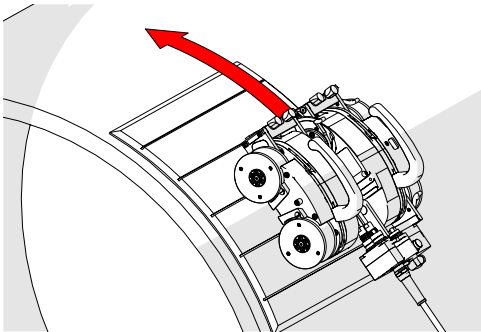
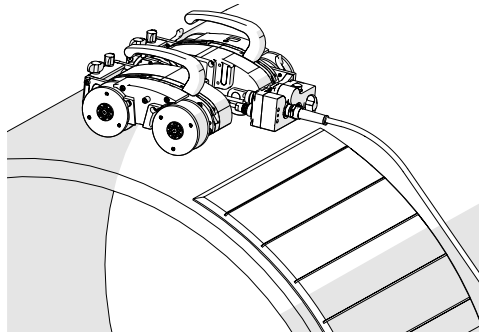

Fig. 305 - Drive crawler off the mat
Fig. 306 - Magnetized to surface
4. Ensure all four wheels of the crawler are held firmly against the installation/removal mat. While holding the crawler, use **Jog Mode** (see "Jog Mode" on page 134) to carefully drive (Fig. 305) the crawler off the installation/removal mat and onto the inspection surface (Fig. 306).
5. Once the crawler is securely on the inspection surface the user may let go of the crawler (Fig. 306).